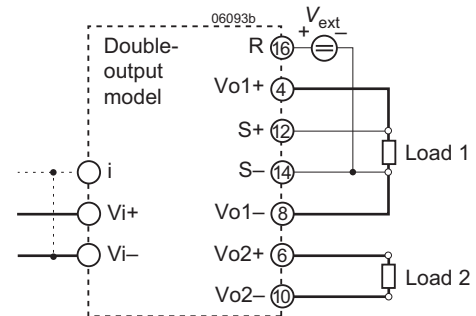

Fig. 20 Output adjust using an external control voltage  $V_{ext}$ .
a) Adjustment by means of an external control voltage  $V_{ext}$  between R (pin 16) and S- (pin 14); see fig. 20.